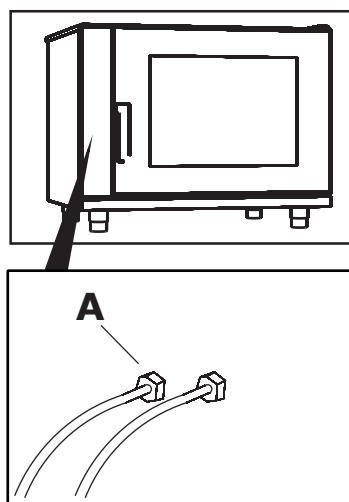

Fig. 8
- unscrew, if presents, the stuffing box (**A-Fig.8**) of the thermostat wires, remove the wires and unscrew the holding of the security thermostat and the screws of the cooking thermostat which can be find behind the control panel;